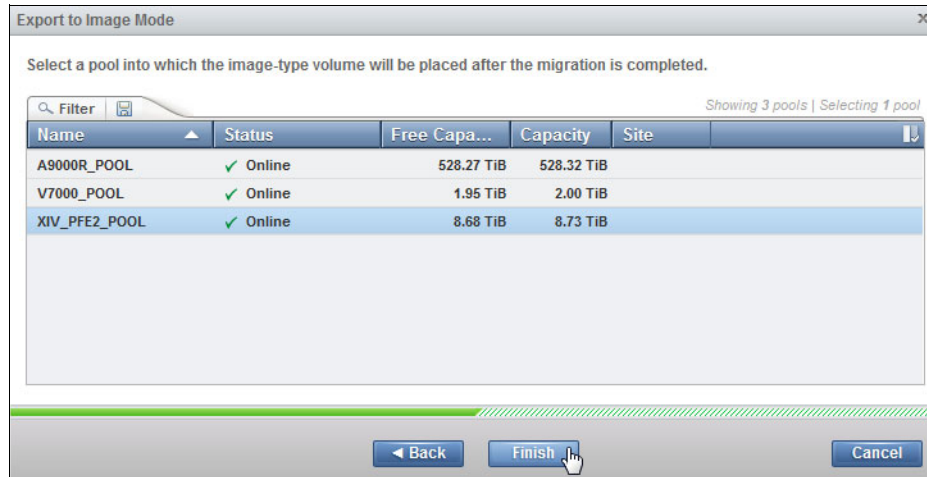

Figure 5-18 Export to Image mode pool selection
3. Select the target pool for the Image mode volume (XIV_PFE2_POOL in this example), as shown in Figure 5-18.